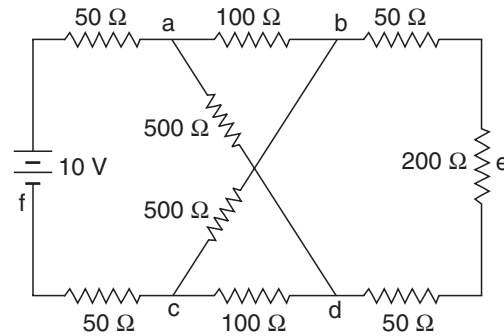

Fig. 64
22. For the lattice-type network shown in Fig. 64, calculate the current in each branch of the network.